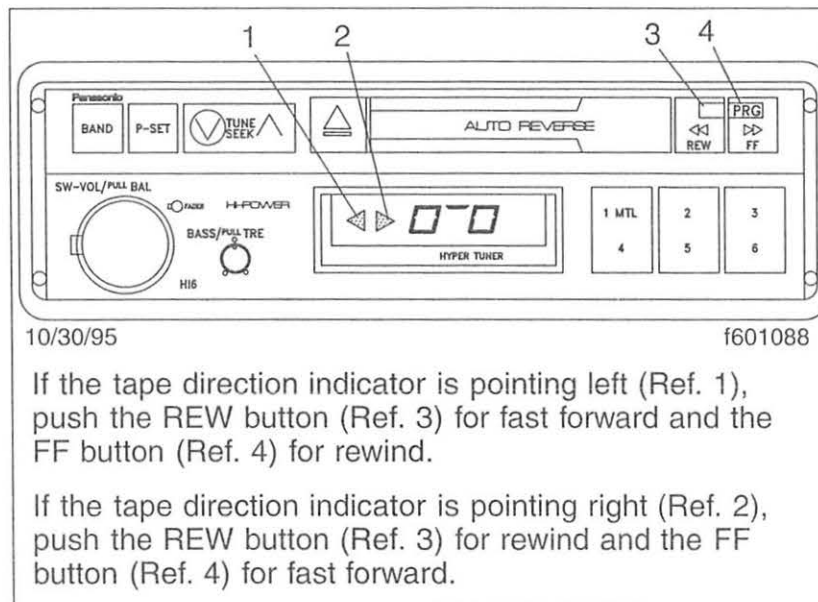

Fig. 2.26, Fast Forward and Rewind
3. To start fast forward or rewind, press one of the program selection buttons (fast forward or rewind) as shown in **Fig. 2.26** (the tape direction indicator will blink during fast forward or rewind):